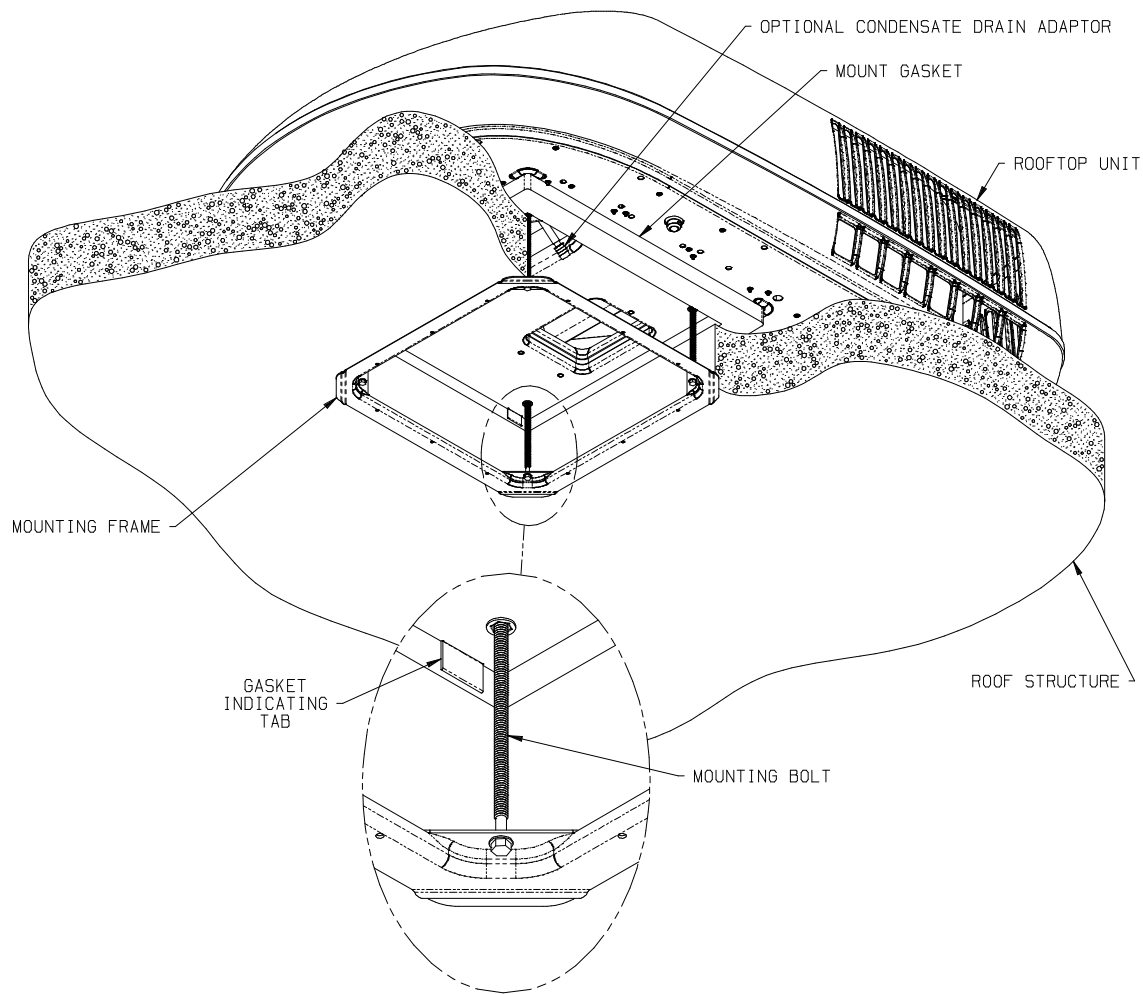

FIGURE 4
A mounting frame is supplied with the ceiling assembly. Follow the steps below to secure the heat pump to the roof. Refer to Figure 4.
- C. Proper tension has been achieved for each bolt when any portion of each gasket indicating tab has been pulled down even with the roof. See Figure 4. The
- D. If the heat pump is equipped with an optional evaporator condensate pump, a 1/2" I.D. hose must be provided that runs from the 14" square opening, through the vehicle ceiling and down the side wall to allow water to drain under the vehicle. The hose must not be allowed to kink shut while making a bend. Connect the top end of the drain hose to the barbed fitting shown in Figure 4.